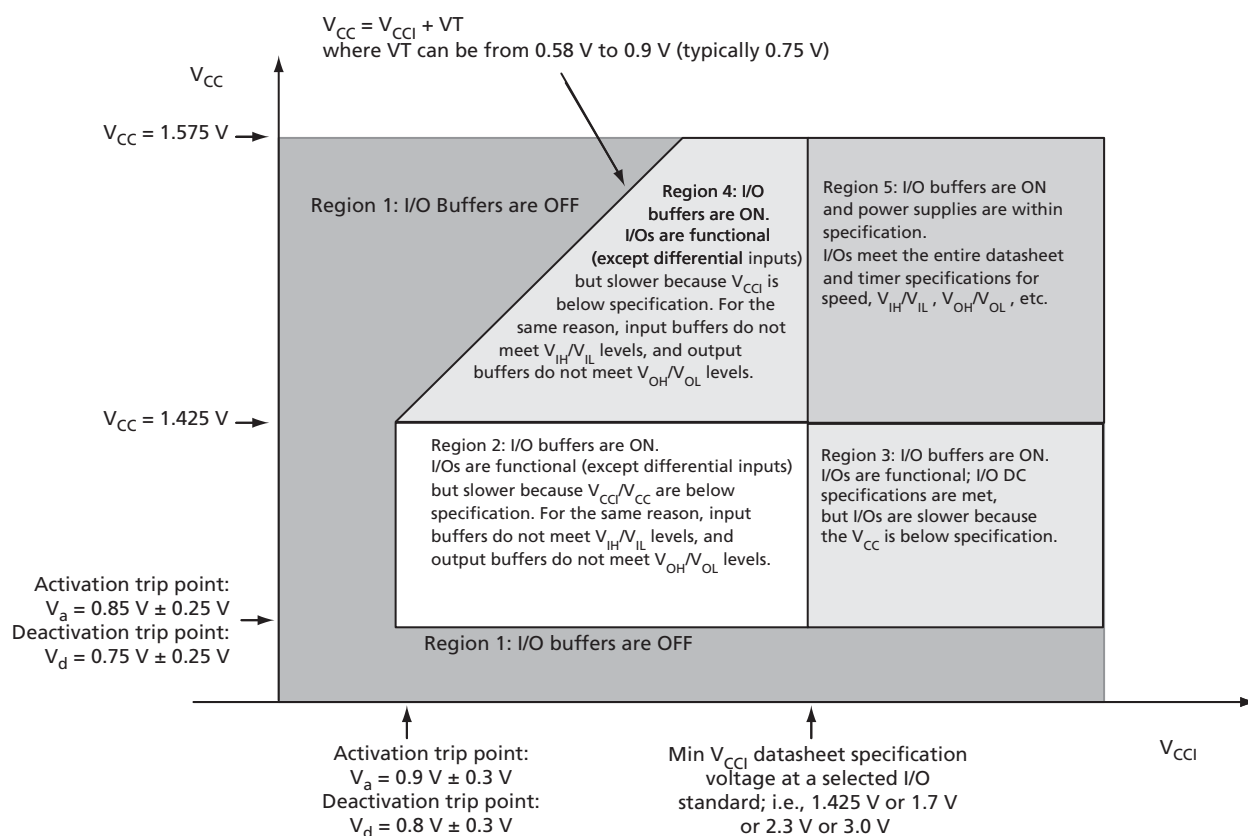

Figure 2-1 • V5 Devices – I/O State as a Function of V_{CCI} and V_{CC} Voltage Levels
Sophisticated power-up management circuitry is designed into every ProASIC3 device. These circuits ensure easy transition from the powered-off state to the powered-up state of the device. The many different supplies can power up in any sequence with minimized current spikes or surges. In addition, the I/O will be in a known state through the power-up sequence. The basic principle is shown in Figure 2-1 on page 2-4 and Figure 2-2 on page 2-5.
1. V_{CC} and V_{CCI} are above the minimum specified trip points (Figure 2-1 on page 2-4 and Figure 2-2 on page 2-5).
Actel recommends using monotonic power supplies or voltage regulators to ensure proper powerup behavior. Power ramp-up should be monotonic at least until V_{CC} and V_{CCPLX} exceed brownout activation levels. The V_{CC} activation level is specified as 1.1 V worst-case (see Figure 2-1 and Figure 2-2 on page 2-5 for more details).